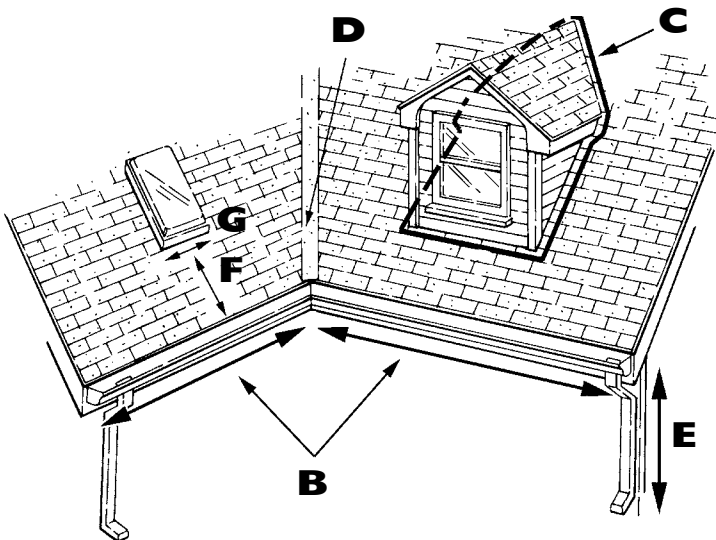

Figure B-3. Roof Measurements
STEP 1. For each area listed in Table B-5, measure the required dimensions (see Figure B-1 on page 20 and Figure B-3) and calculate the length of cable needed. Add each “area” calculation to determine the total cable length needed.
This example shows how to estimate the cable length needed for a limited problem roof area – a skylight (see Figure B-3 on page 22). For this roof, you would like to treat only the problem area underneath the skylight.